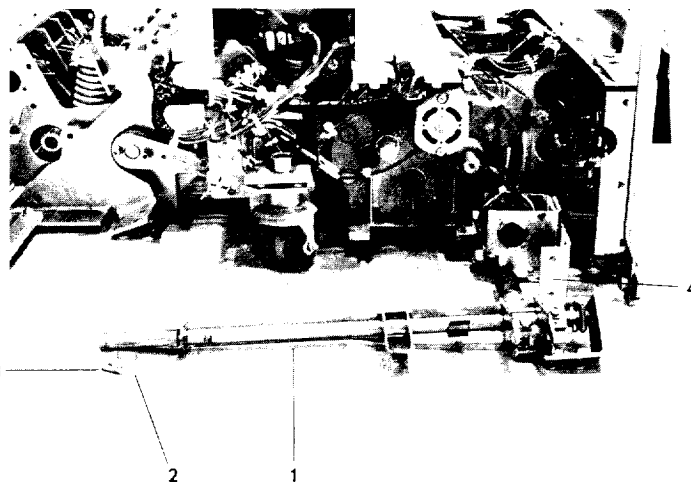

Fig. A15 Close Shaft (Forward) Removal
Remove the front angle plate (paragrph A.5.3) and the phase 3 (right side facing breaker) interrupter assembly (paragraph A.5.7). With the breaker open and the closing spring discharged, use end cutting nippers to cut the clamp which retains the close shaft drive pin. Remove the drive pin, (3) Fig. A15. Disconnect the charge/discharge mechanism spring. Remove the close coil (paragraph A.5.13) and maneuver the shaft out through the front of the breaker.